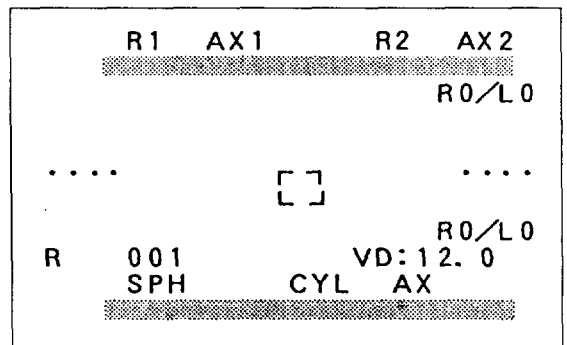

Figure 6-6 Sample Screen During Measurement
(3) Measurement procedure
- ① Show the patient where to sit. Ask the patient to rest both the hands on their lap to relax them.
- ② Press the Ready key on the measuring unit to enter the measurement mode (see Figure 6-6). In the measurement mode, when the alignment has been completed, the K-plus will automatically start measurement. Measurement cycles are taken in the measurement mode continuously. Pressing the Ready key temporarily again halts the measurement mode, and pressing the Ready key once again returns the unit to the measurement mode for continued operation.